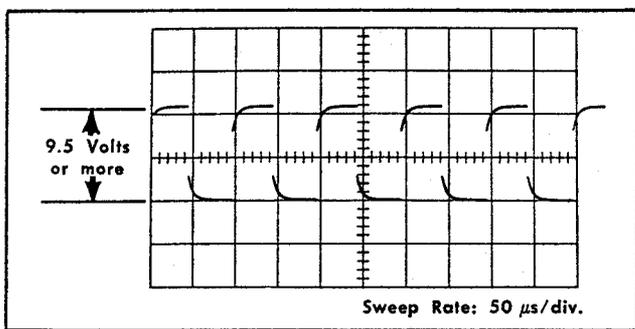

Fig. 7-11. Measuring the amplitude of the composite internal trigger as displayed on the test oscilloscope CRT. Vertical deflection factor: 5 volts/div.
- d. With the test oscilloscope probe connected to the same test point as described in step 16g and using the calibrated vertical deflection factor on the test oscilloscope check the amplitude of the waveform. The amplitude should be 9.5 volts or more (see Fig. 7-11).